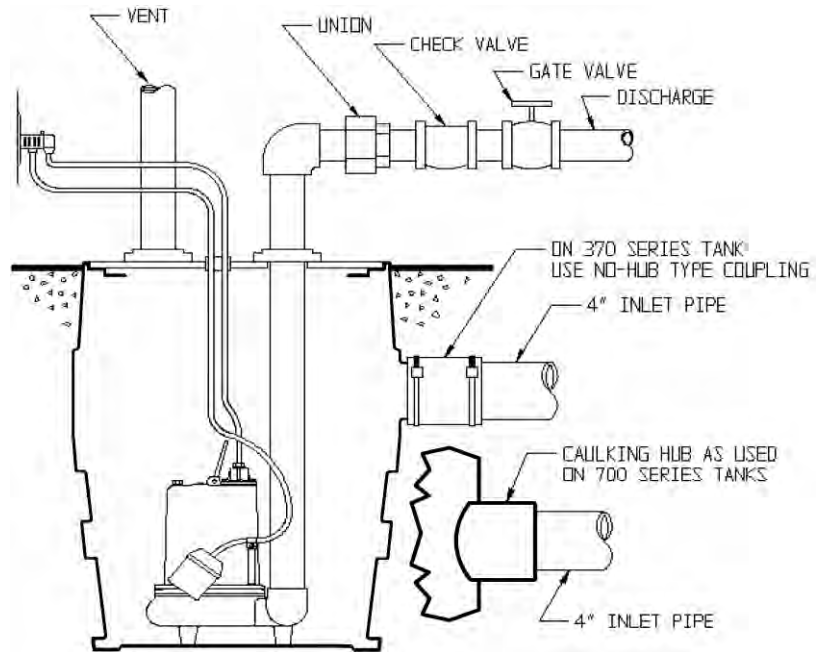

Fig. 2 – Typical Installation Simplex System
A. Simplex (One Pump) Systems (see Fig. 2):